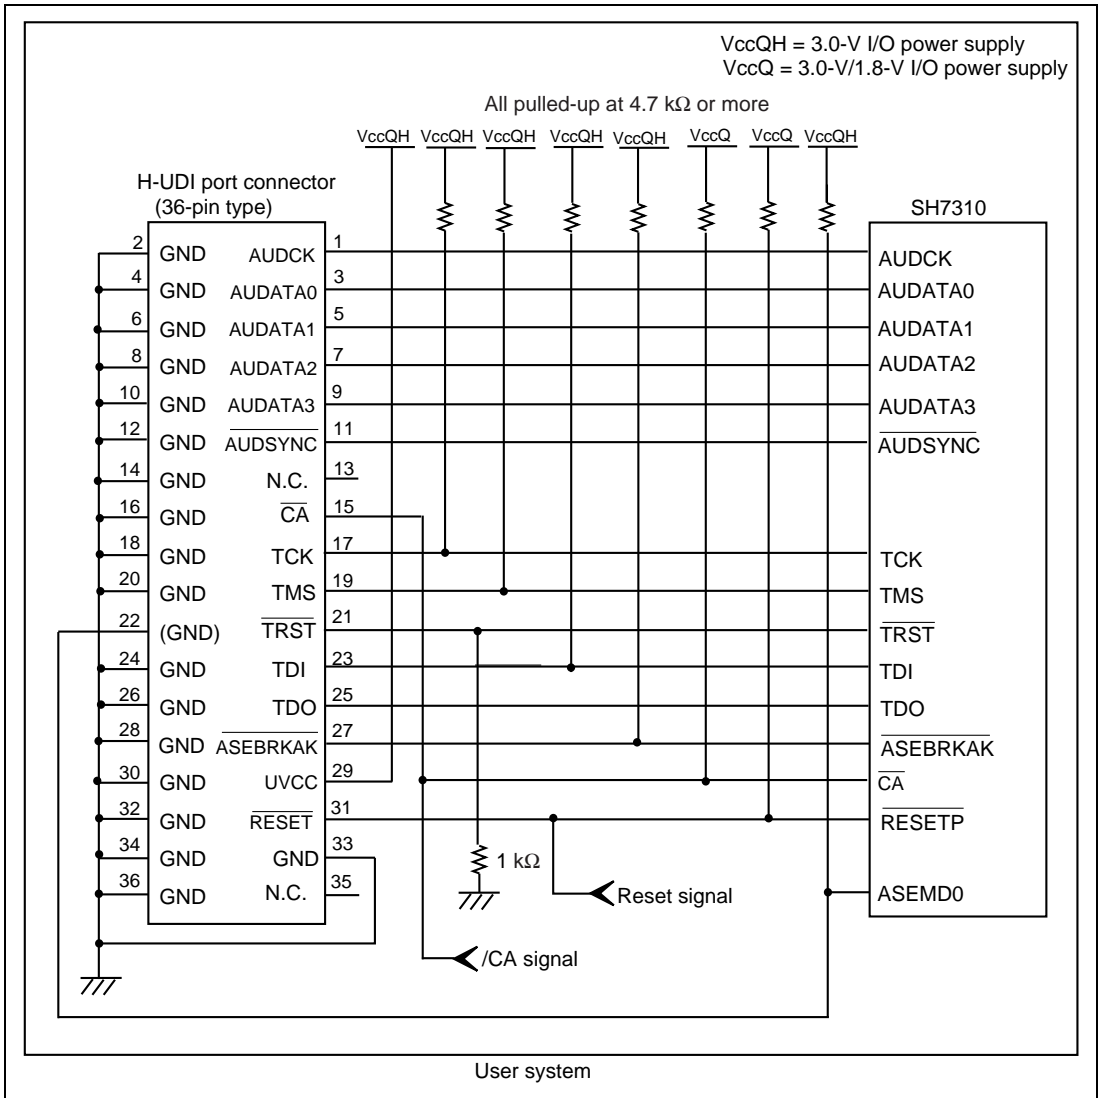
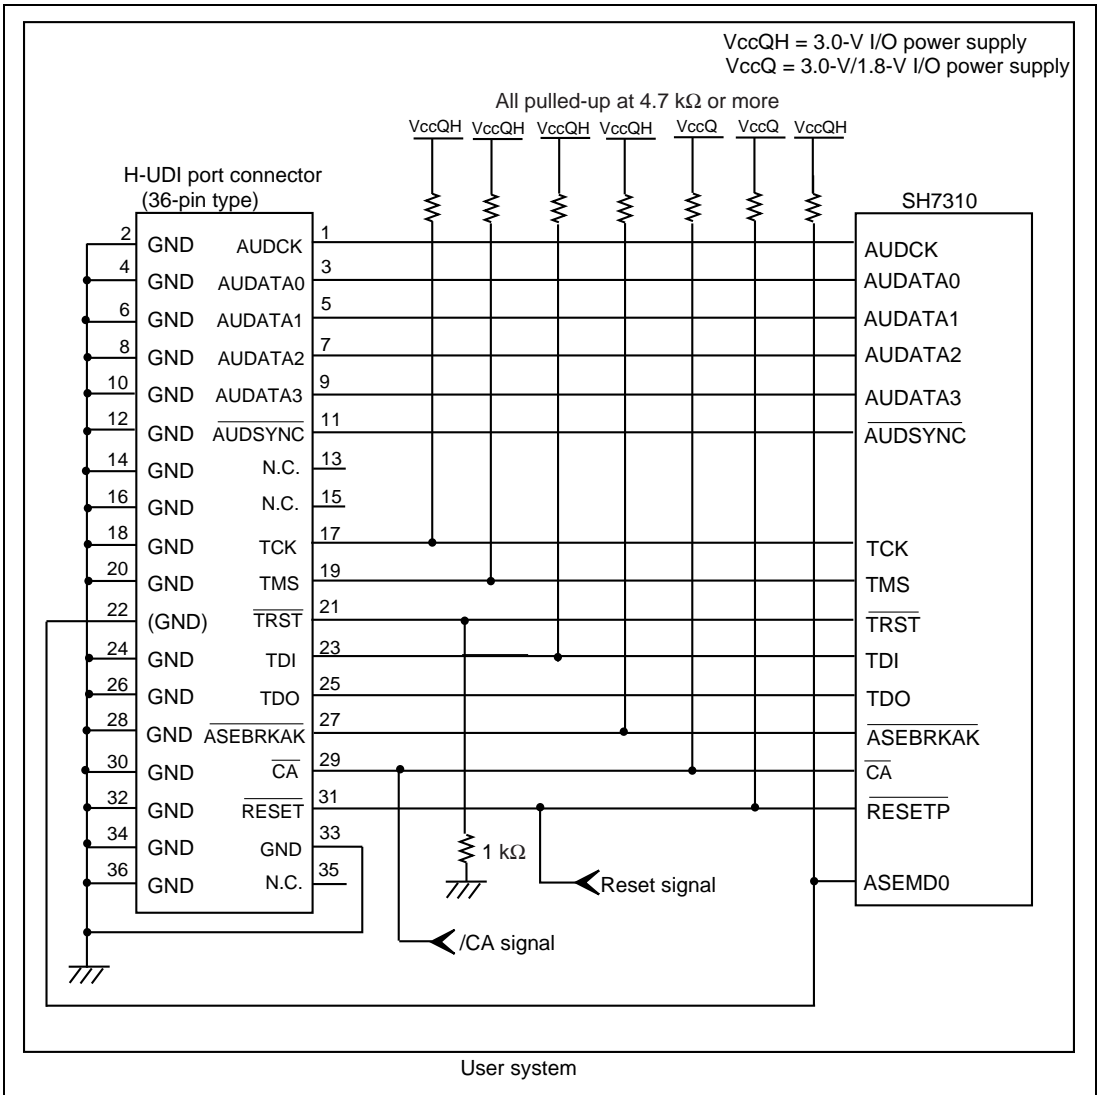

Figure 1.3 Recommended Circuit for Connection between the H-UDI Port Connector and MPU when the Emulator is in Use (36-Pin Type UVCC Connected)
Figure 1.4 Circuit for Connection between the H-UDI Port Connector and MPU when the Emulator is in Use (36-Pin Type UVCC Not Connected*)
Figure 1.3 shows a recommended circuit for connection between the H-UDI and AUD port connectors (36 pins) and the MPU when the emulator is in use. Figure 1.4 shows a circuit for connection when UVCC is not connected.
- (1) When the emulator is used: /ASEMD0 = 0 (ASE mode)
- (2) When the emulator is not used: /ASEMD0 = 1 (normal mode)Figures 1.3 and 1.4 show examples of circuits that allow the /ASEMD0 pin to be GND (0) whenever the emulator is connected by using the user system interface cable. When the /ASEMD0 pin is changed by switches, etc., ground pin 22. Do not connect this pin to the /ASEMD0 pin.
supplied (SW2 = 1 and SW3 = 1). With these settings, pin 29 is used as the UVCC pin. The /CA pin must be connected to pin 15 (as shown in figure 1.3).
9. Changing the emulator switches (SW2 = 0 and SW3 = 1) allows pin 29 to be used as the /CA pin. With this setting, supplying the VccQ to the UVCC pin is not available. Thus the I/O voltage level of the user system interface will be fixed to 3.3 V. Pin 15 must be N.C (open), as shown in figure 1.4.
When the circuit is connected as shown in figure 1.3, the switches of the emulator are set as SW2 = 1 and SW3 = 1. For details, refer to section 3.8, Setting the DIP Switches, in the Debugger Part of the SuperH™ Family E10A-USB Emulator User's Manual.
When the circuit is connected as shown in figure 1.4, the switches of the emulator are set as SW2 = 0 and SW3 = 1. For details, refer to section 3.8, Setting the DIP Switches, in the Debugger Part of the SuperH™ Family E10A-USB Emulator User's Manual.